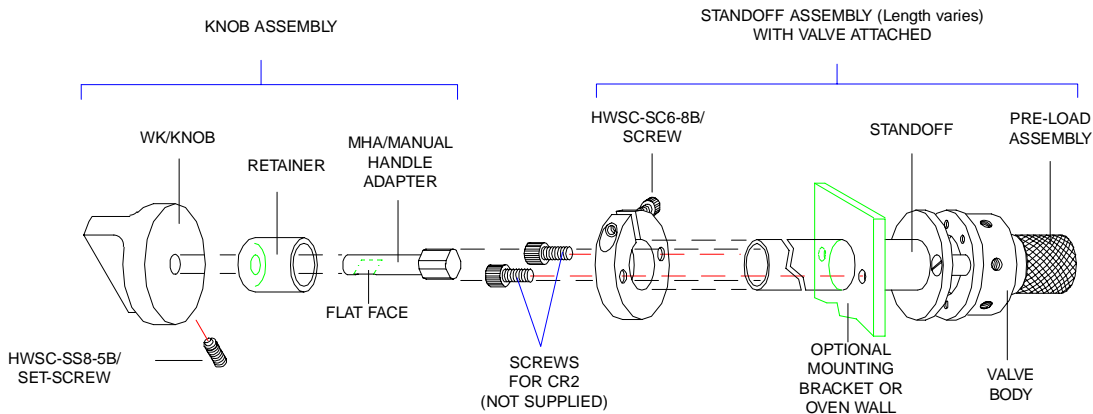

Figure 5: Manual valve on a standoff
2. See **Figure 5**. Simply pull the handle or knob, with the manual handle adapter and retainer, off of the standoff tube.